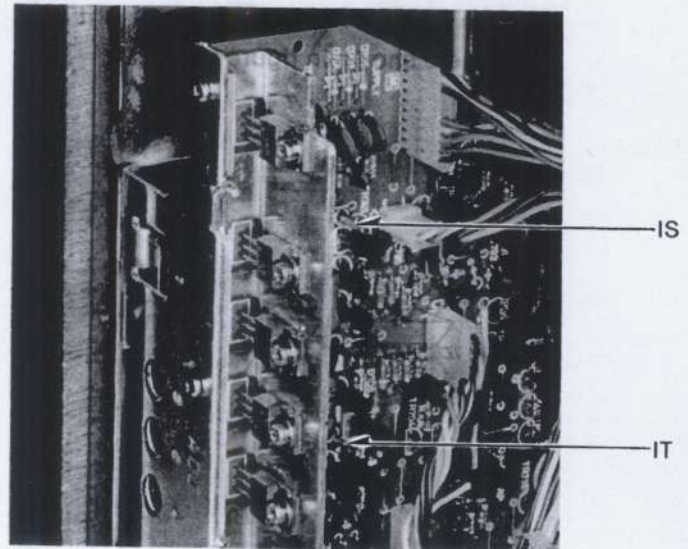

Fig. 26
- (1) Install a full wound tape (10" or 7").
- (2) Set tape-speed selector to 19 cm/s.
- (3) Connect a VTVM to terminal IT (for take-up torque) or IS (for back tension) on reel-drive circuit board as shown in fig. 26.
- (4) Playback the tape about its middle.
- (5) At this time, voltage at each terminal;